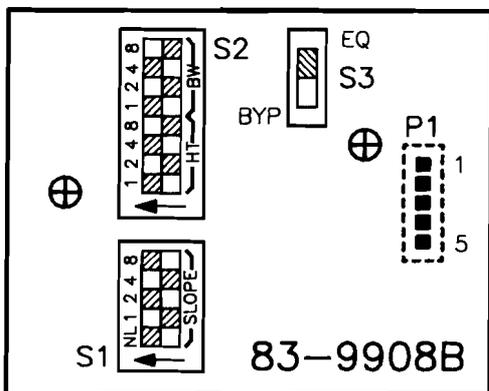

figure 6. 9908B switch locations
2.03 The 9908B contains one option switch, S3, a two-position miniature slide switch whose location on the subassembly is shown in figure 6. Depending upon the setting of this switch, the 9908B's equalization circuitry is either inserted into the host module's transmission path or electrically bypassed, as desired. Set S3 as follows:
figure 6. Switch S1 is a five-position DIP switch that conditions the subassembly for use with nonloaded or loaded cable (SLOPE NL position) and also controls the degree of slope for the equalization introduced (SLOPE 1, 2, 4, and 8 positions). Switch S2 is an eight-position DIP switch that controls the height of bump of the equalization introduced (HT 1, 2, 4, and 8 positions) and also determines the bandwidth affected by that equalization (BW 1, 2, 4, and 8 positions). For each equalization parameter (slope, height, and bandwidth), the 1, 2, 4, and 8 switch positions are cumulative: the selected SLOPE, HT, or BW equalization setting is the sum of the respective 1, 2, 4, and 8 DIP-switch positions set to ON. Thus, for each equalization parameter, a setting of 0 to 15 is possible.